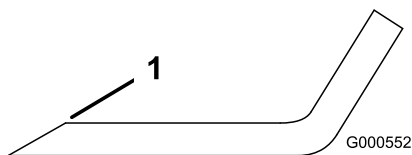

Figure 81
1. Use a file to sharpen the cutting edge at both ends of the blade (Figure 81).
Note: If the blade is not balanced, file some metal off the end of the sail area only (Figure 81).